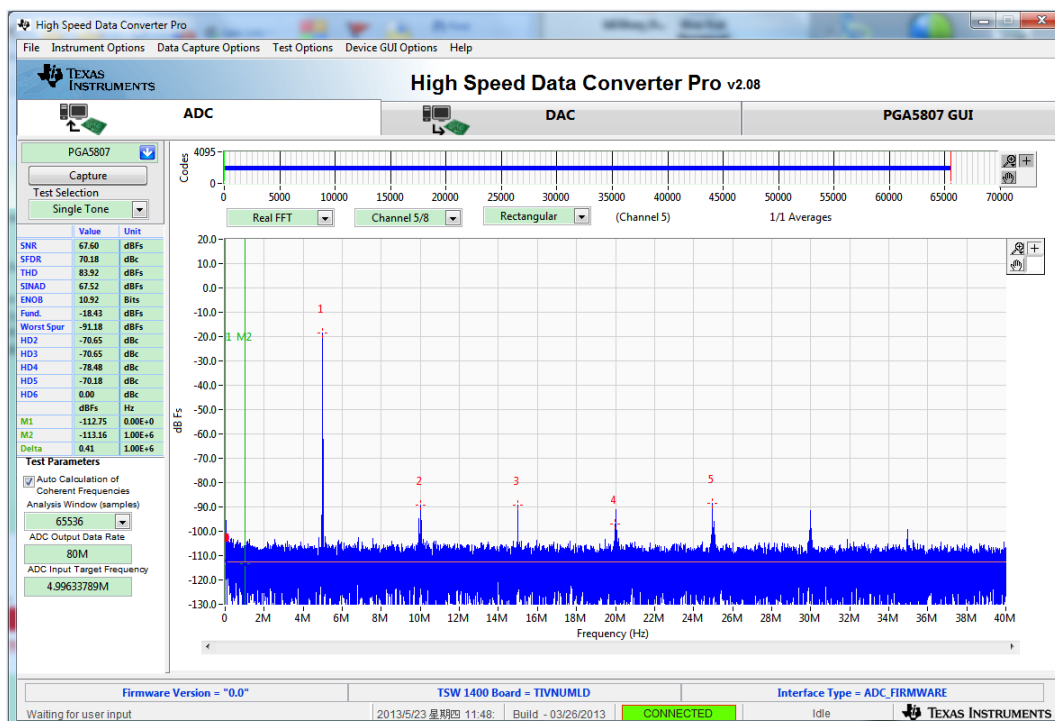

Figure 47. PGA5807A + ADS5296A Gain Test Capture 2
- Clicking on the ADC tab and pressing *Capture* results in Figure 47. Take the difference in the *Fund.* value shown here to the previous capture. This difference should equal the difference in PGA\_GAIN values between the two captures, or 18 dB. In this example, the difference is 17.4 dB.